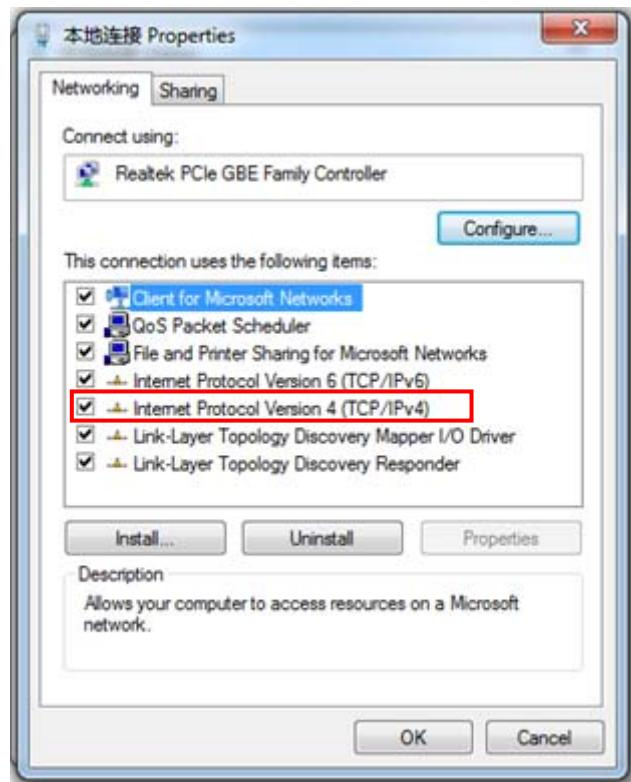

Figure 3-3-1
2. Set IP address of the server to 192.168.1.74, as figure 3-3-1.